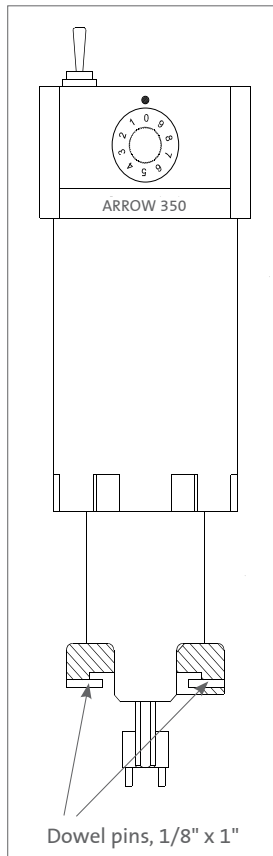
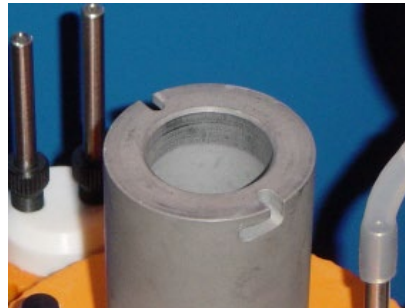

Figure 18. Direct Drive Motor
Figure 19. Engagement slots for bayonet fittings
Step 1 (Figures 19 and 20)
Note the location of the two engagement slots for the bayonet fittings (see Figure 18, Dowel Pins, 1/8" x 1") on the top of the drive shaft (Figure 19). The dowel pins on the bottom of the Direct Drive Motor (Figure 20) will slide into these slots to secure the motor in place for operation.
Step 4 (Figure 18)